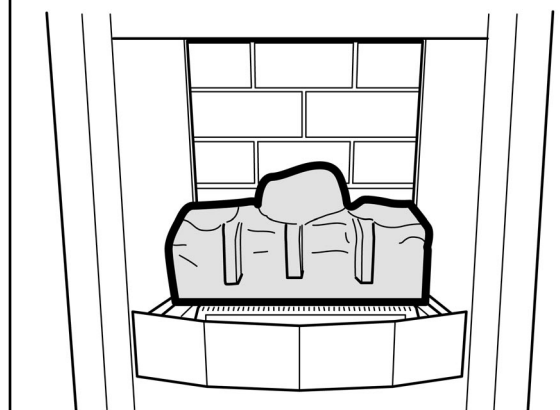

Figure 10 Rear Base Pebble Position
1. Place the rear base pebble in the firebox. It should rest on the ledges at the sides and back of the firebox and its rear face should touch the rear ceramic wall. See figure 10.